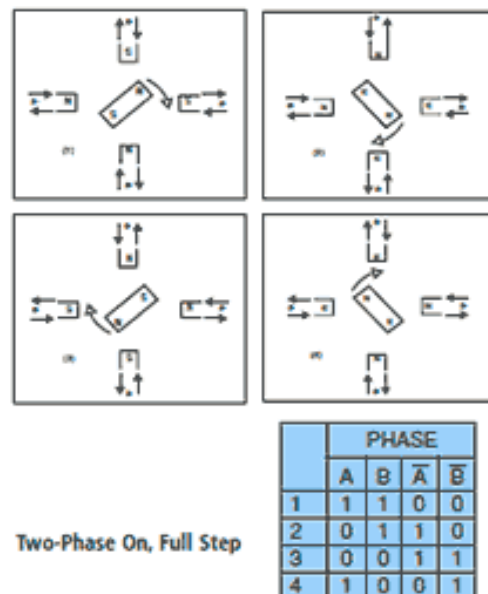

Figure 7: Double-step mode. Two phases are always on so the motor will provide its maximum rated torque
- Double-step mode (Figure 7).